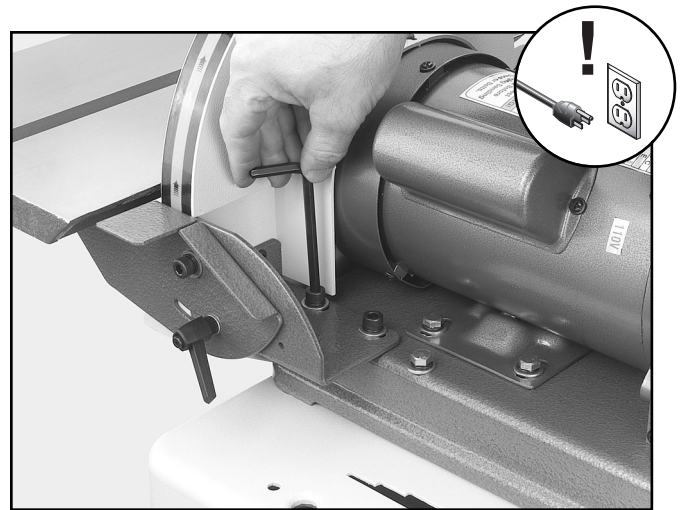

Figure 13. Loosening table bolts.
1. Loosen the bolts that secure the table to the table support bracket as shown in **Figure 13**.